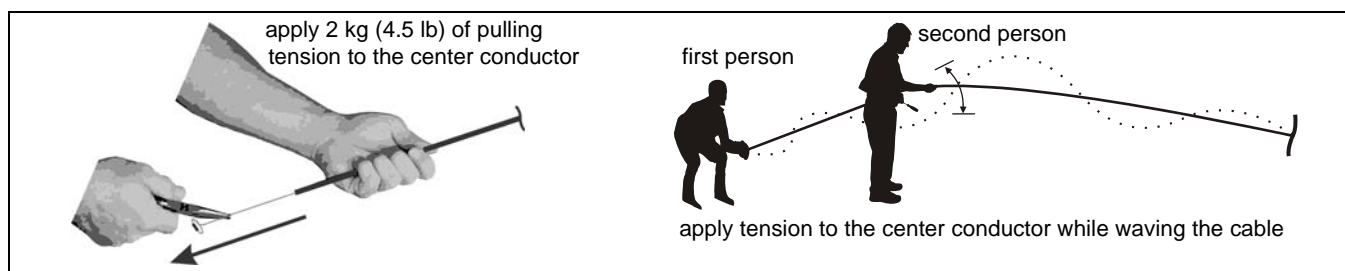

Figure 16: Applying tension to the center conductor / Waving the sensor cable
5. At one end of the sensor cable, the first person firmly holds the sensor cable by the black jacket with one hand, while using the other hand to grip the center conductor with a pair of pliers (see Figure 16:).